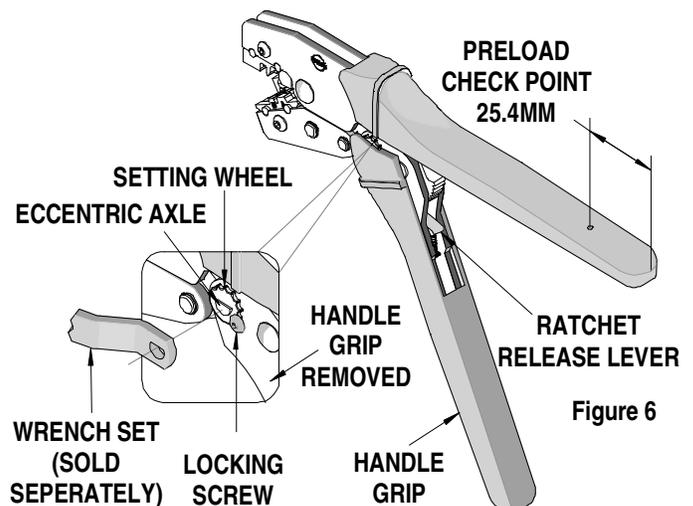

Figure 6
3. Make certain all pins; pivot points and bearing surfaces are protected with a thin coat of high quality machine oil. Do not oil excessively. The tool was engineered for durability but like any fine piece of equipment it needs cleaning and lubrication for a maximum service life of trouble free crimping. Light oil such as 30 weight automotive oil used at the oil points, every 5,000 crimps or 3 months, , shown in Figure 6 will significantly enhance the tool life.
Should this tool ever become stuck or jammed in a partially closed position, **Do Not force the handles open or closed.** The tool will open easily by pressing the ratchet release lever. See Figure 6.
## How to Adjust Tool Preload (See Figure 6)